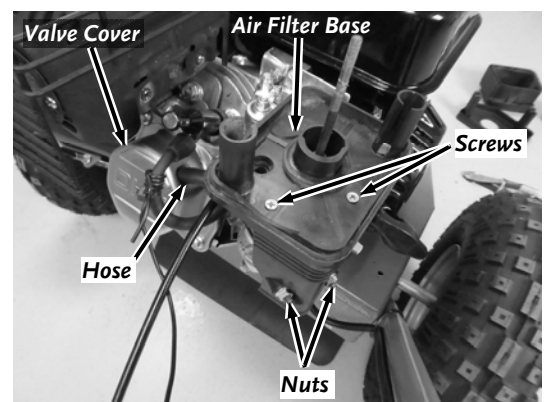

Figure 22
3. Remove the two Screws at the top of the Filter Base using a Philips Head Screwdriver (**Figure 22**).
1. Use the Cable Ties to secure the Cables and Wires to the Control panel and handlebars at the locations indicated (**Figure 22**).